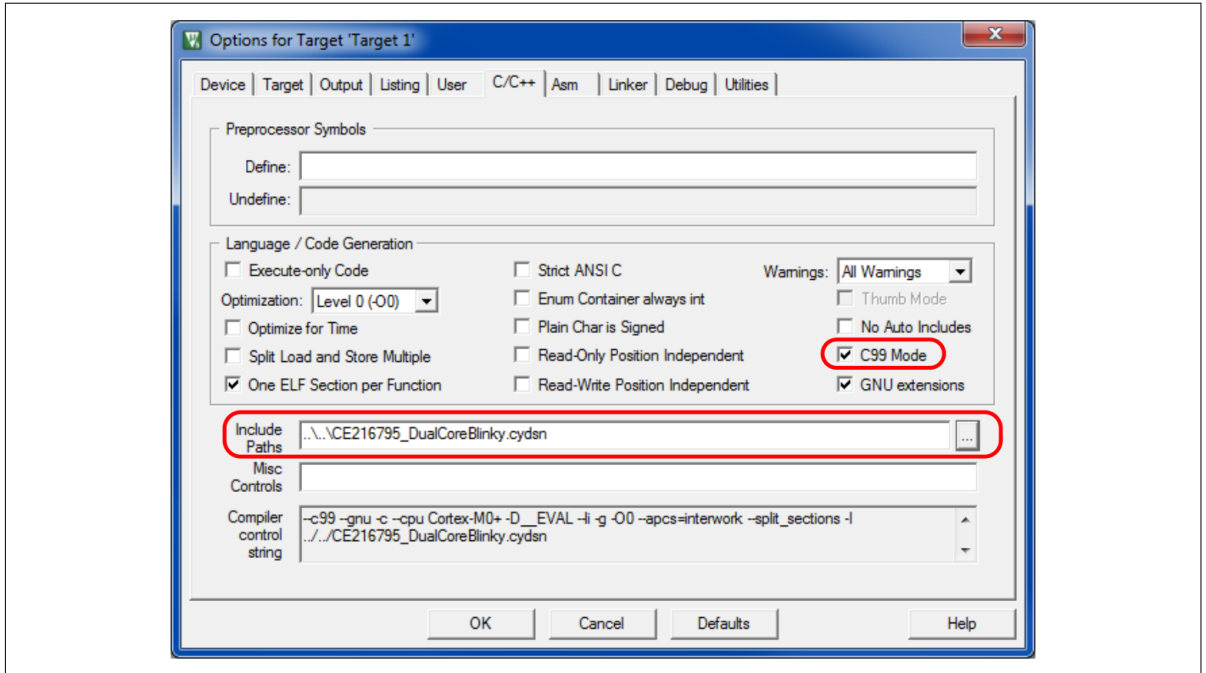

Figure 22 Project C/C++ options
Confirm in the **C/C++** tab that the **C99 mode** option is checked, as Figure 22 shows. (PDL is developed based on C99.) Add the PSoC™ Creator <project>.cydsn folder to the **Include Paths**; this provides a link to the .h files in the PSoC™ Creator project. Update other options and fields as needed
- In the **Options** dialog, **C/C++** tab, add `--fpu=fpv4-sp` to **Misc Controls**; see Figure 22